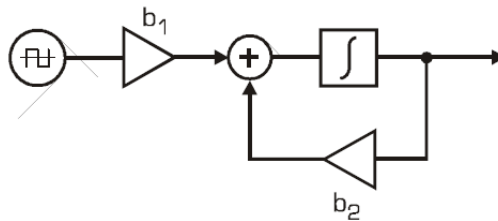
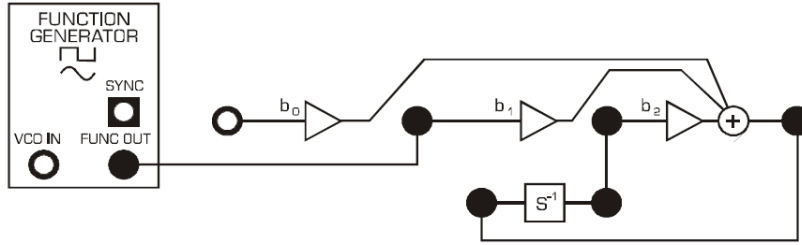

Figure 2-8 Block Diagram for a feedback System
Figure 2-9 Connection Diagram for a feedback System
4. Connect the modules according to Figure 2-8 and Figure 2-9. Settings are as follows: